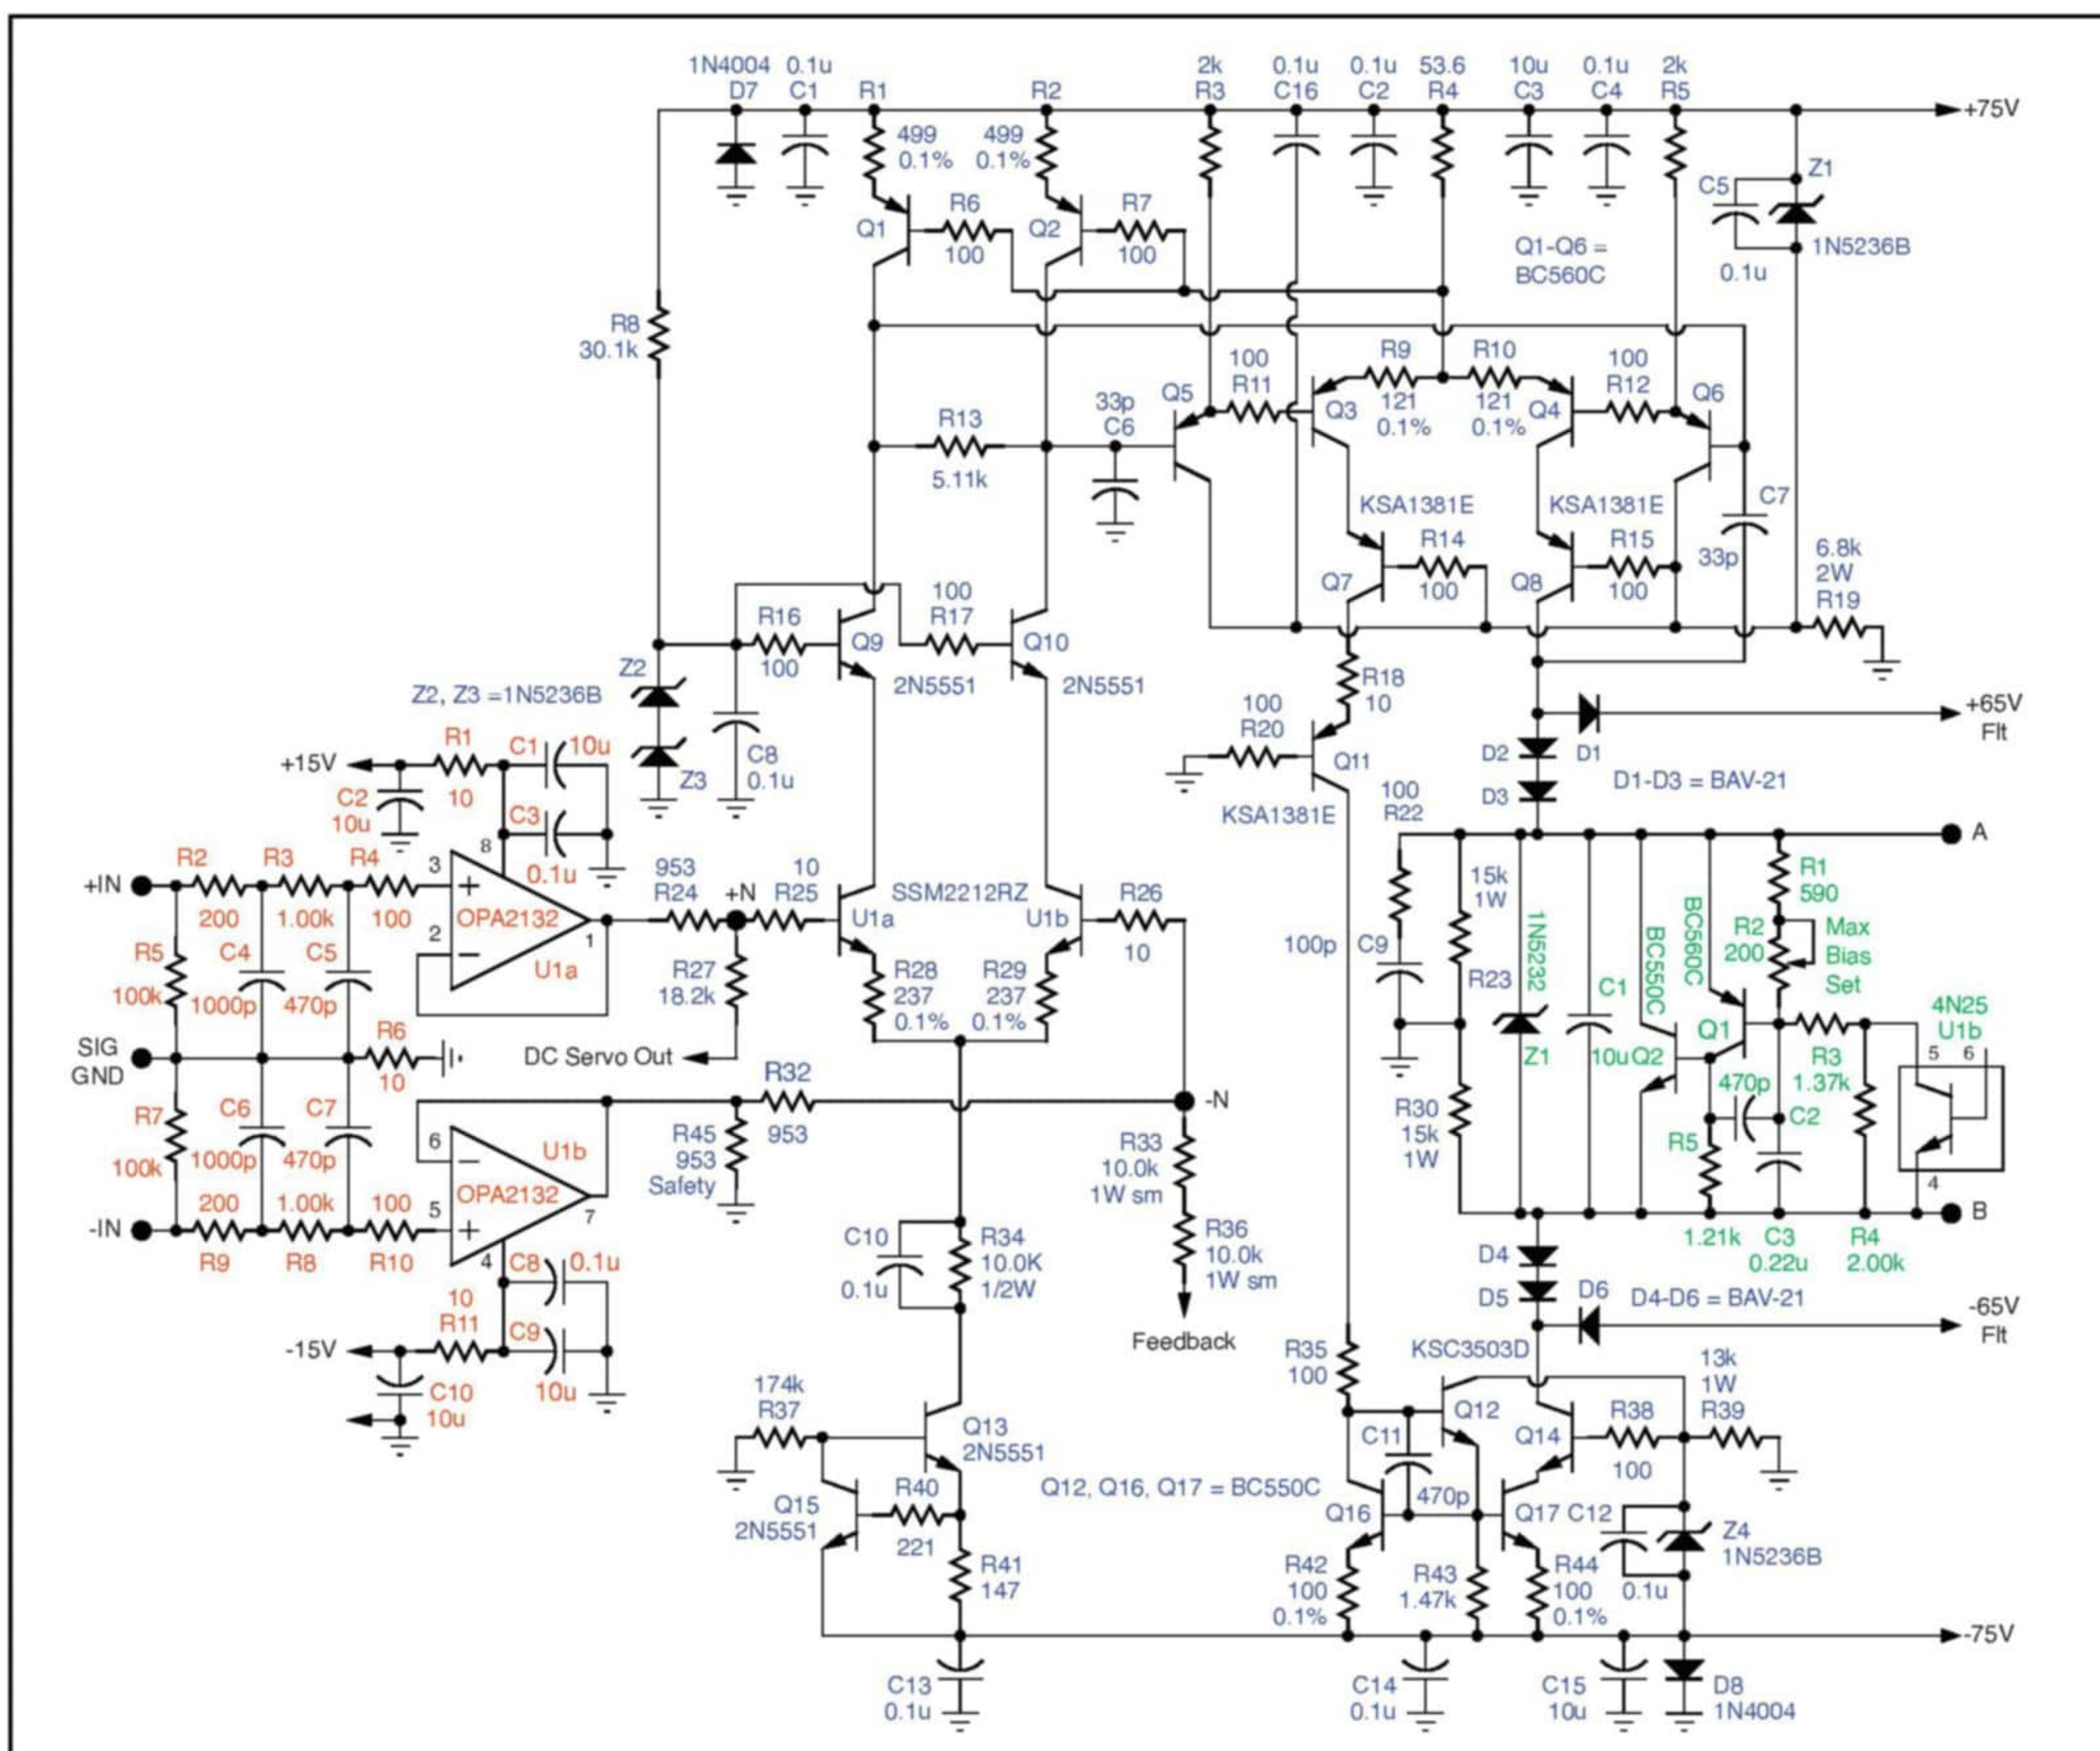
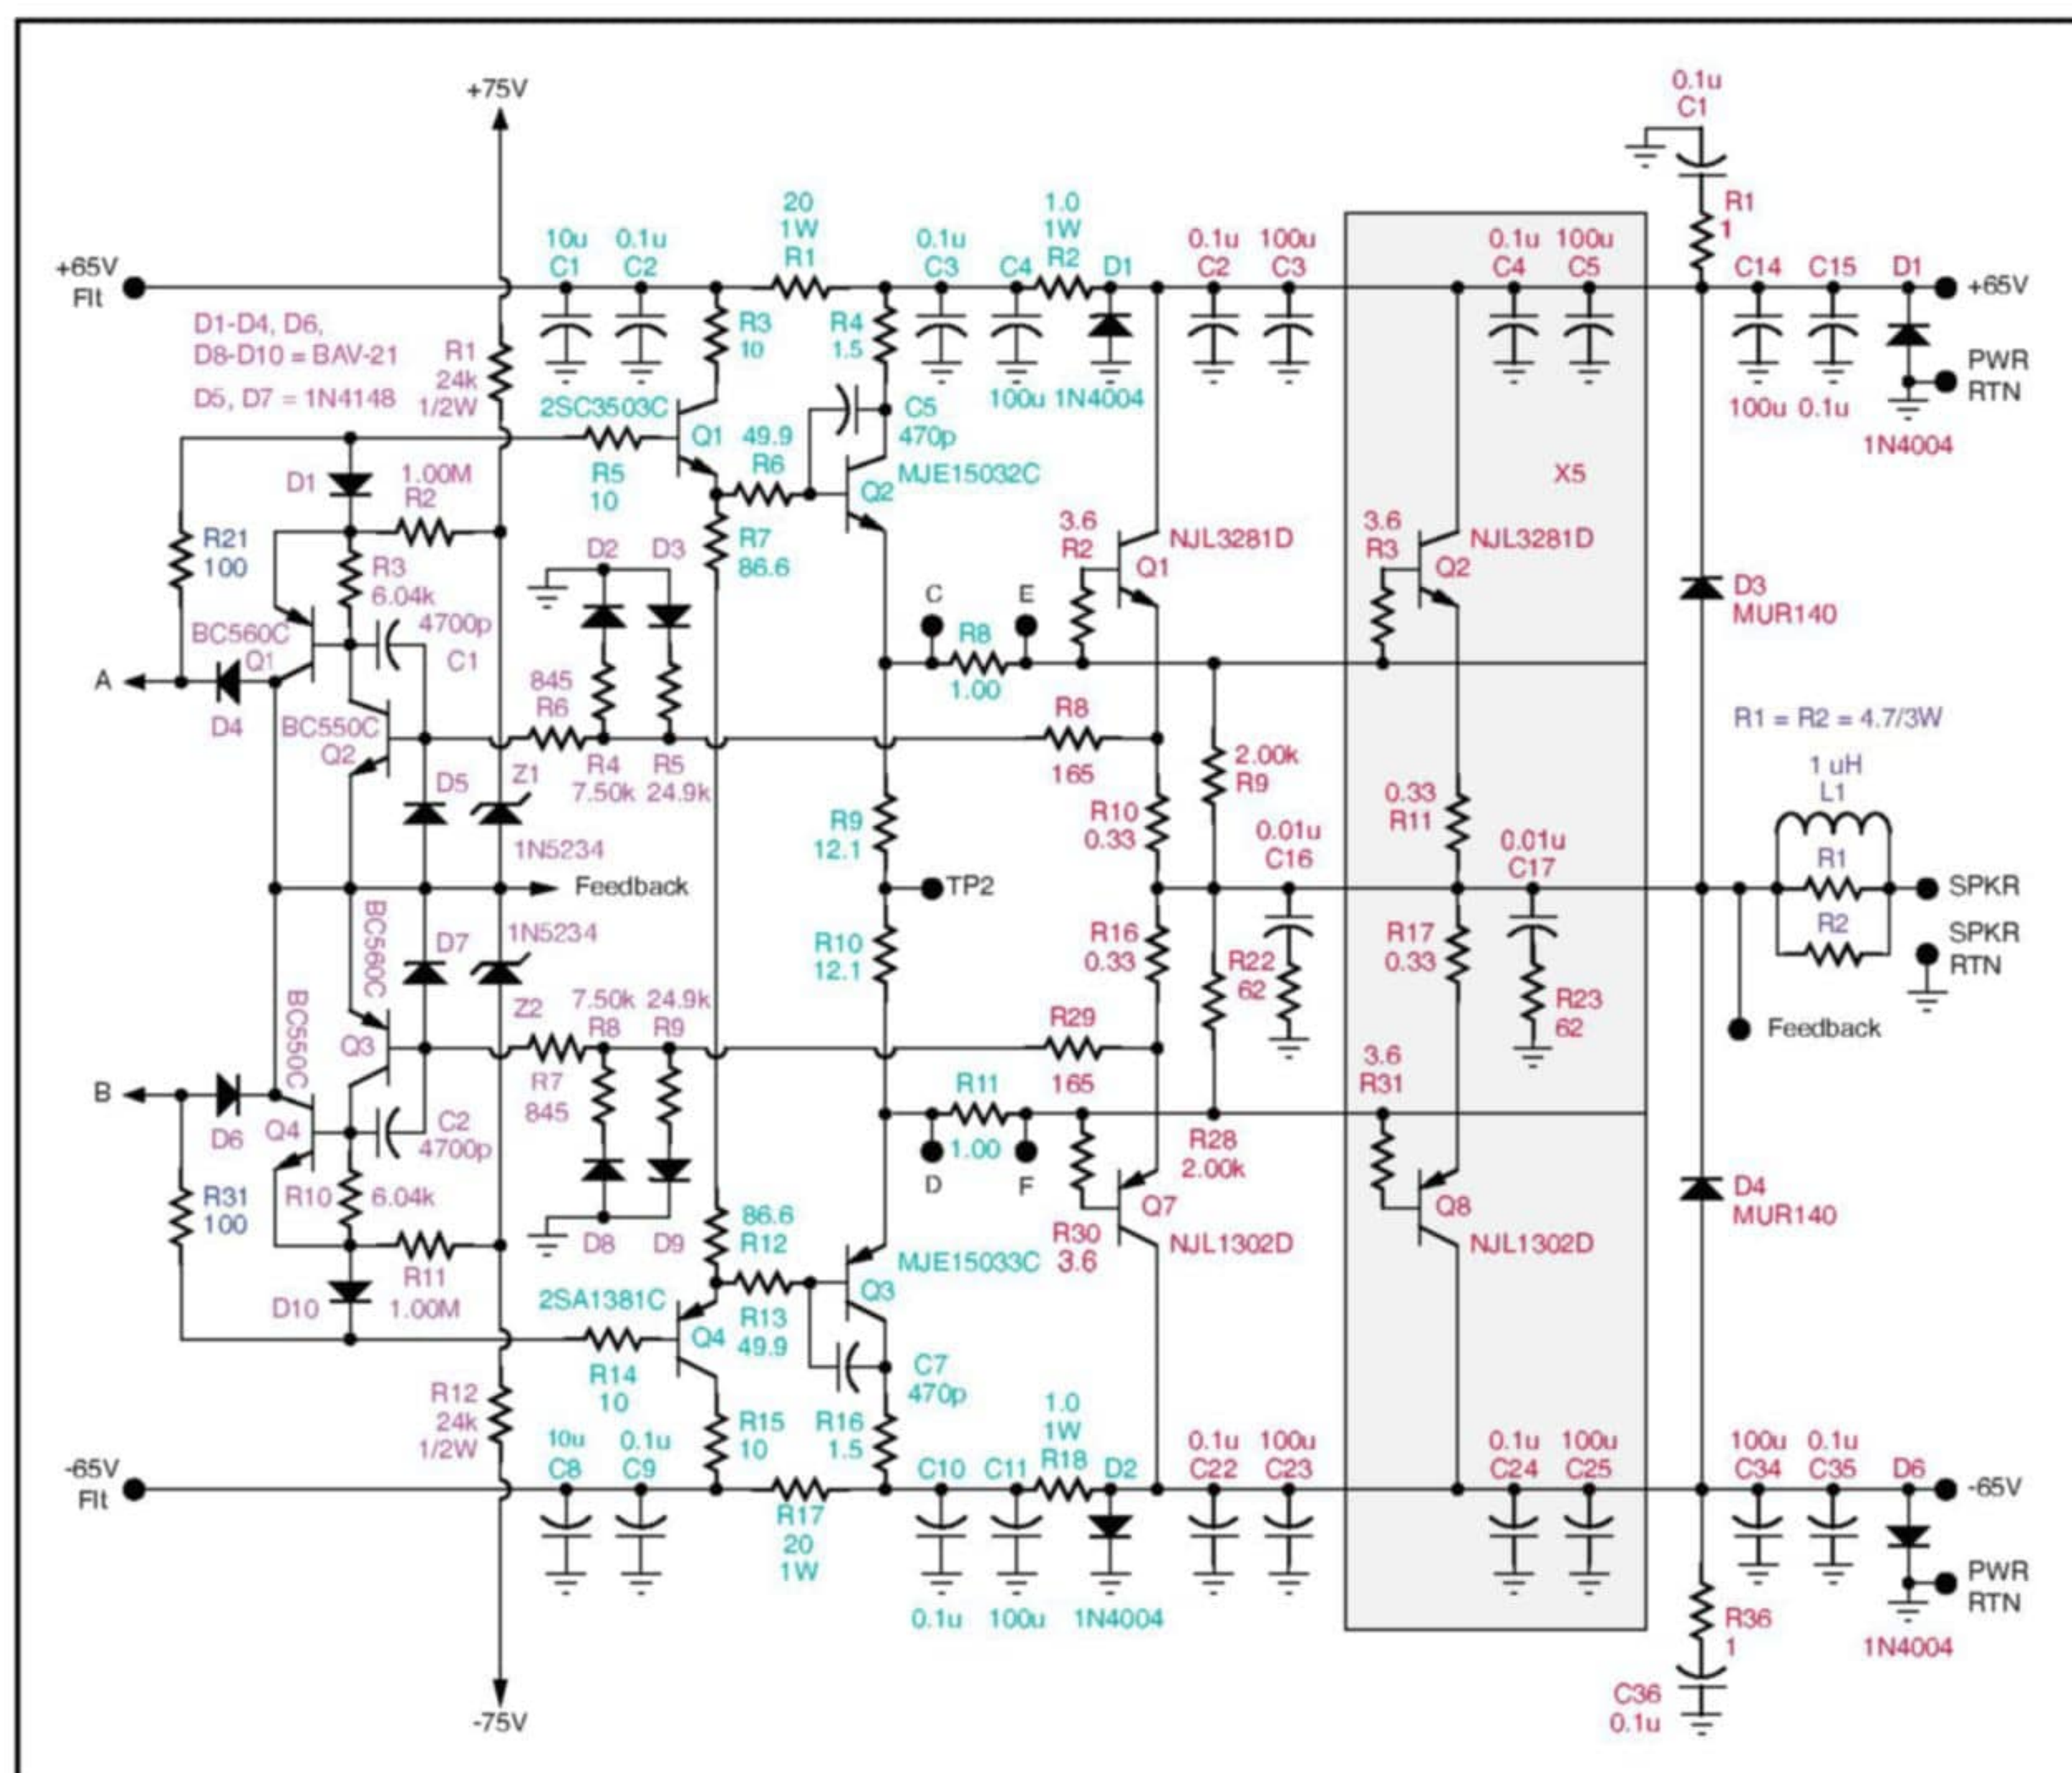

Figure 1: This schematic shows the Audio Path—input to VAS output.
Figure 2: This schematic shows the Audio Path—VAS output to the isolation network output.
**Figure 1** shows the schematic diagram of the MB1's audio path from input to voltage amplifier stage (VAS) output. Functions are separated in the diagram by the font color of the reference designations and part values.
**Figure 2** shows the schematic diagram of the MB1's path from VAS output to the isolation network output. The safe operating area (SOA) protection circuit on the Driver CCA is shown in the magenta font. There are two types of output current limiting implemented. The first is "natural current limiting" as per Bob Cordell to limit peak current [7]. This simple technique is very fast and clean. The second is dual-slope VI limiting. Here, the natural current limiter protects the output stage until the more sophisticated, but slower, VI limiter can react. Natural current limiting is implemented
The approach to achieving unconditional stability in the triple was shamelessly “borrowed” from “The YAP Output Stage” where Ovidiu Popa did some very nice simulation work [9]. Key are the poles introduced in the driver stage by R4, R6, and C5 on the positive side and R13, R16, and C7 on the negative side. Resistors R8 and R11 are included so the Bias Controller, also on this card (not shown in Figure 1 or Figure 2), can measure the driver output currents.
return to minimize inductance and maintain a low impedance at very high frequencies. The output L-R isolation network (purple font shown in Figure 2) protects the amplifier from capacitive loads. It is mounted on the Speaker Interface CCA.
U1d is configured as a standard unity-gain, single op-amp, differential amplifier. It measures the voltage between the emitters of the two driver transistors ( $V_{C-D}$ ). This voltage appears, in inverted form, at TP8. A proportional current is drawn from the control loop filter (an integrator) through R21. The integrator (U1b) compares this negative current to a positive one injected from precision voltage source Z1 through R15 and R16. If the two currents are not equal, the output voltage of U1b will move toward one power supply or the other. This changes the optocoupler LED current in the bias generator (Figure 2). This, in turn, changes the current in the optocoupler’s transistor, the voltage across the bias generator, and  $V_{C-D}$ . This establishes a closed